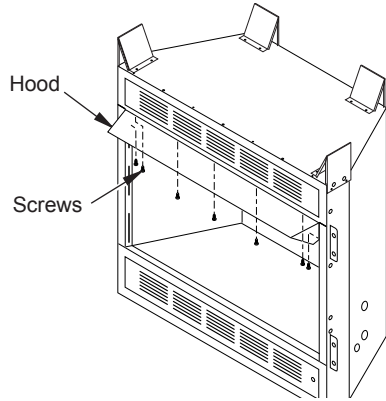

Figure 21 - Screw and Hood Placement (Model May Vary From Illustration)
NOTICE: The firebox identification label (including model number, serial number, clearances, etc.) is located in the right side screen pocket area on the front of the firebox. See Figure 21, page 17.
1. Attach hood to firebox using screws provided (see Figure 21).